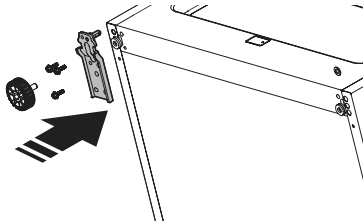

Figure 11
- 15 Move bottom hinge to opposite side and loosely fasten to cabinet with three screws (see Figure 11).